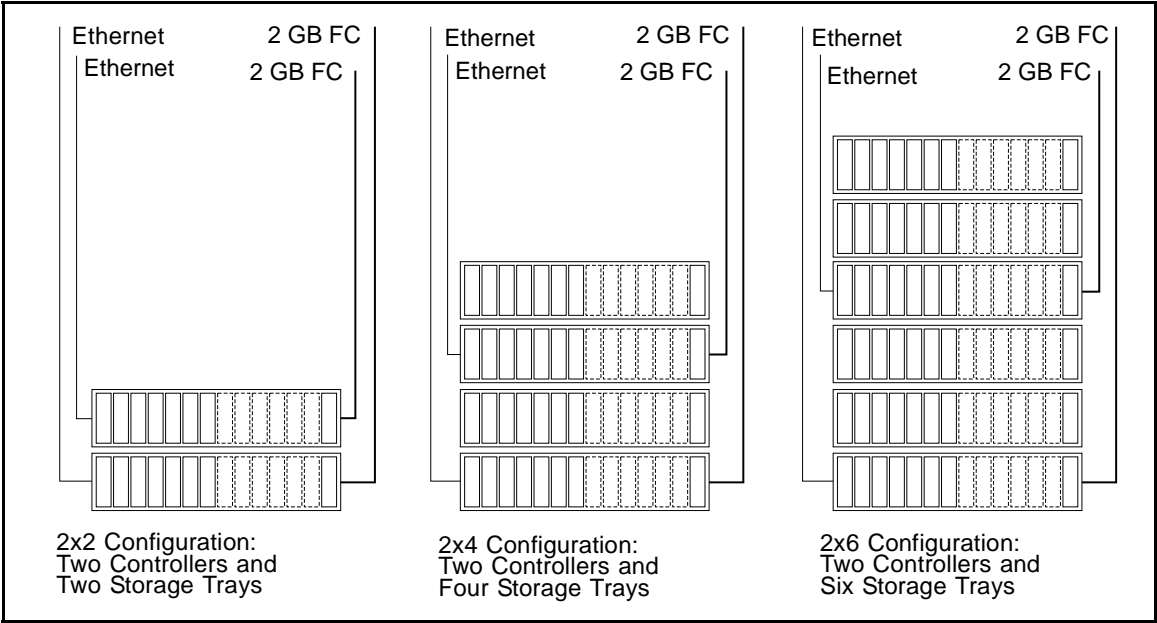

FIGURE 1-2 Array Configuration Options
The storage array design is modular, with a variety of possible configurations (FIGURE 1-2). Each configuration option includes two controllers (also referred to as a controller pair) to provide redundancy and failover capabilities. Each storage array also has redundant Fibre Channel (FC) data paths and two power supplies with an integral battery backup system. In the event of a total power failure, each array has sufficient power from the batteries to shut down in an orderly fashion.